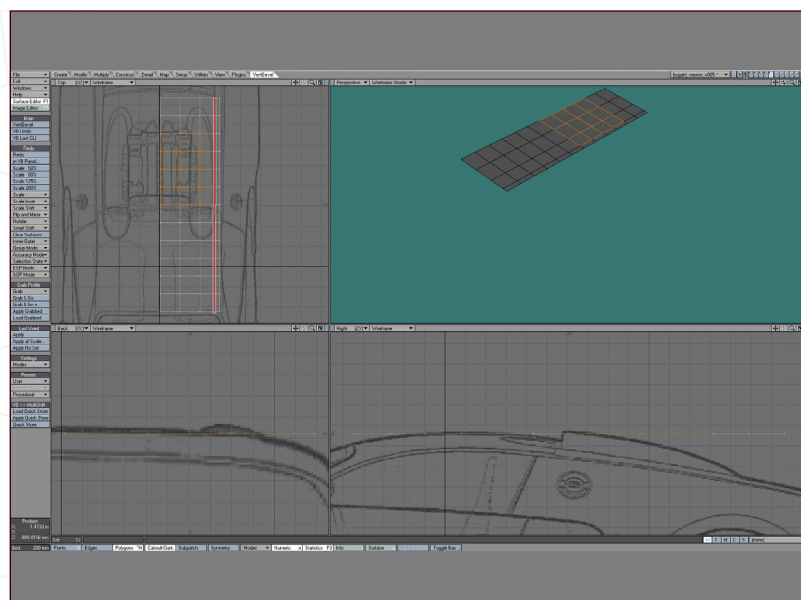

Fig 18
18. Secondly, the door needs the corners controlled so as not to leave them too rounded compared to the real car (**Fig18**).